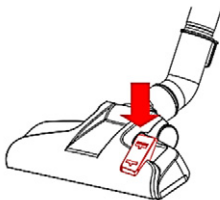

Fig. 12
3. As in **Fig.12**, tread on the pedal of the brush tool to let the bristles out, and you can clean the floor.